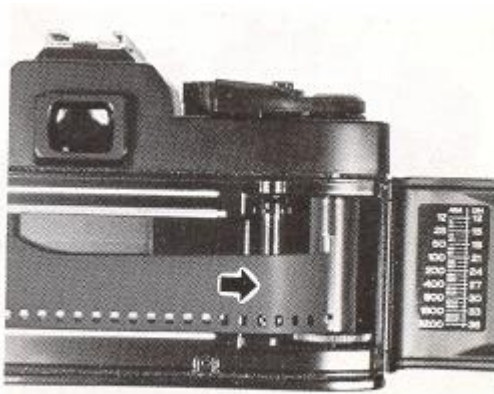

Fig. 6
5. Draw the film leader across the camera back and insert it into one of the slits of Film Take-up Spool (36) (Fig. 6). To bring the slit into a convenient position, rotate Film Take-up Spool (36) in the direction of arrow with your finger.